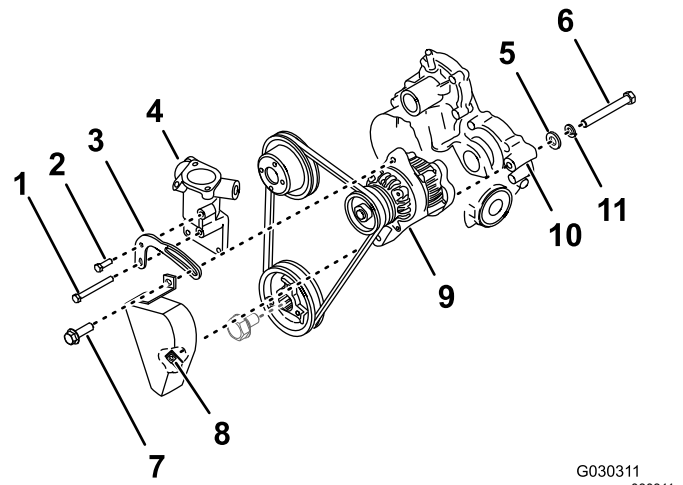

Figure 242
- Remove the alternator lock bolt from the alternator and belt-tensioning bracket (Figure 242).
- Remove the short tensioning-bracket bolt from the thermostat housing and belt-tensioning bracket (Figure 242).
- Remove the long tensioning-bracket bolt from the cylinder head, thermostat housing, and belt-tensioning bracket, and remove the belt tensioning bracket from the machine (Figure 242).
- At the back of the alternator, fully loosen the pivot bolt and remove the belt cover from the machine (Figure 242).
- While supporting the alternator, remove the pivot bolt, lock washer, and flat washer from the alternator and the gear case of the engine (Figure 242).